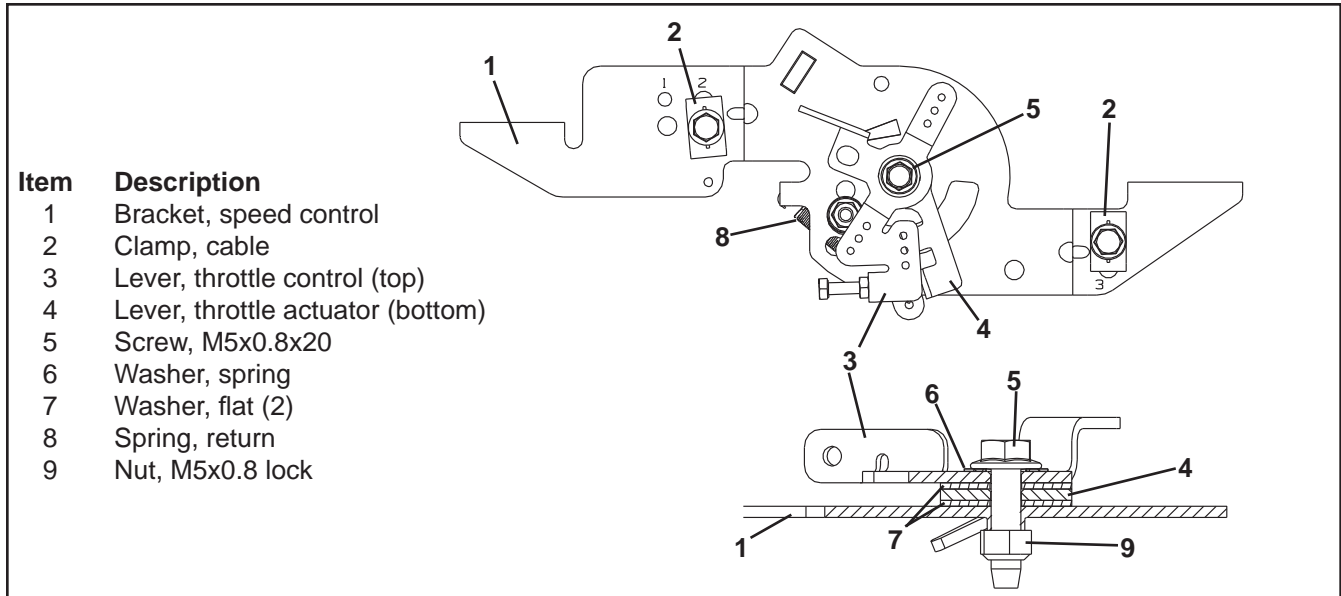

**Figure 10-84. Bottom Mount Control Panel.**
1. Install the bottom control panel and the air cleaner support bracket (if used) to the cylinder heads using the four hex flange screws. Torque the screws to **10.7 N·m (95 in. lb.)** into new holes, or **7.3 N·m (65 in. lb.)** into used holes. See Figure 10-84.